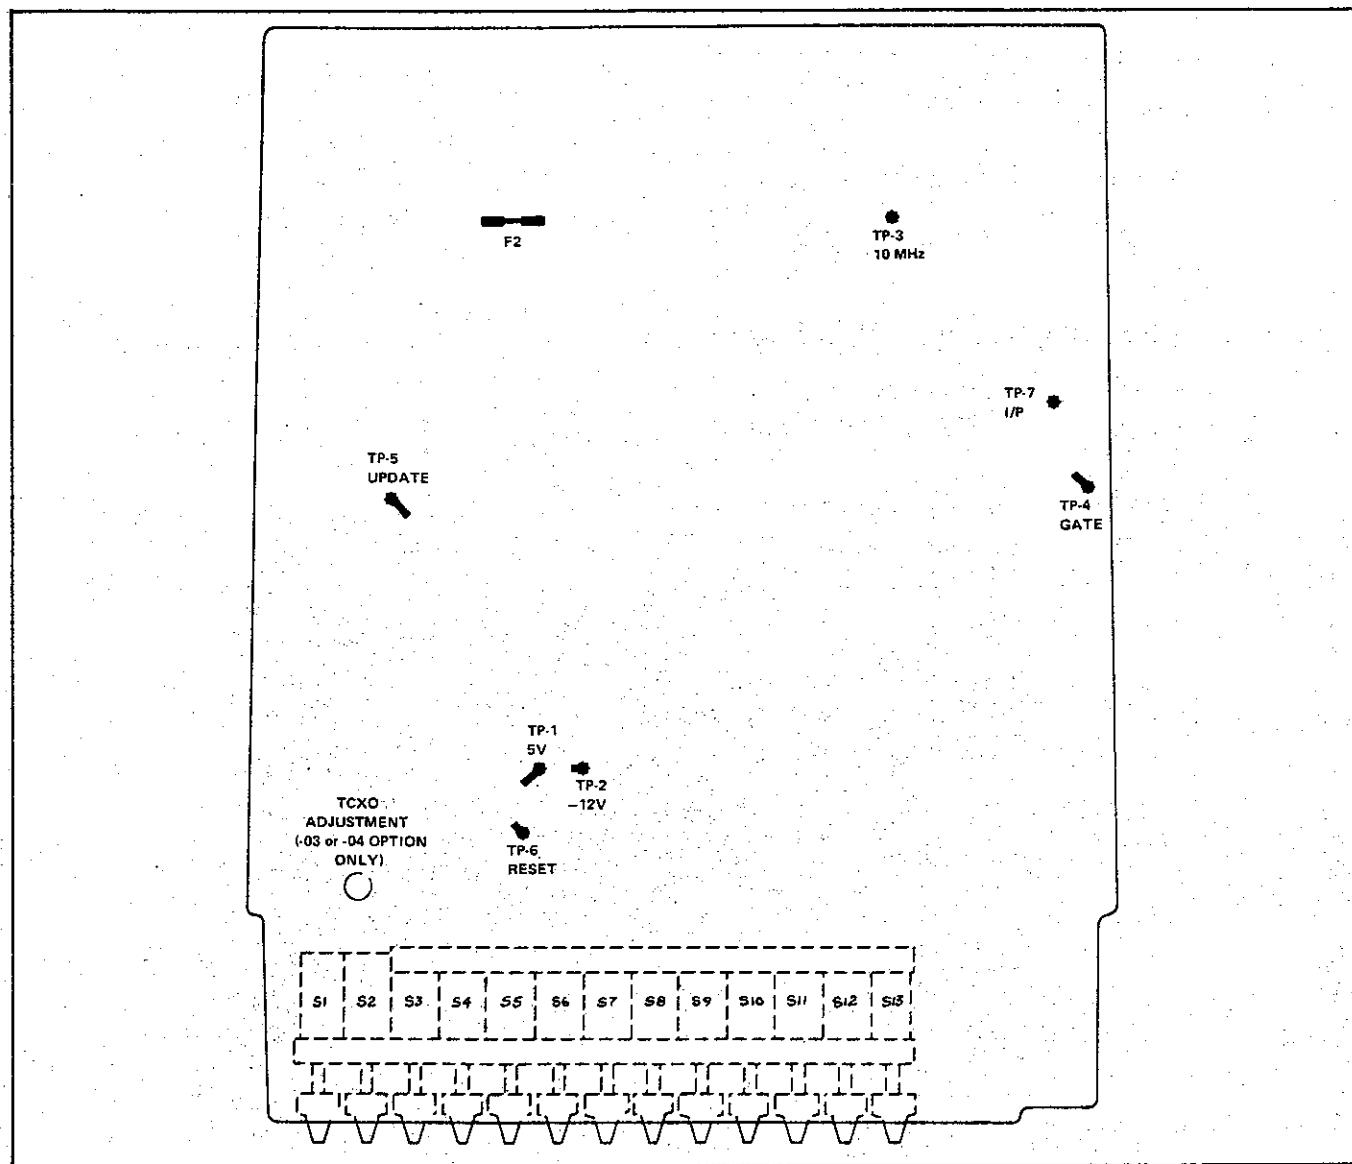

Figure 4-2. Main PCB (Bottom View)
5. Using a nonconductive screwdriver, adjust the TCXO through the Main PCB (see Figure 4-2) to obtain a reading of (overflow) 000.000 ± 3 counts in the LSD.